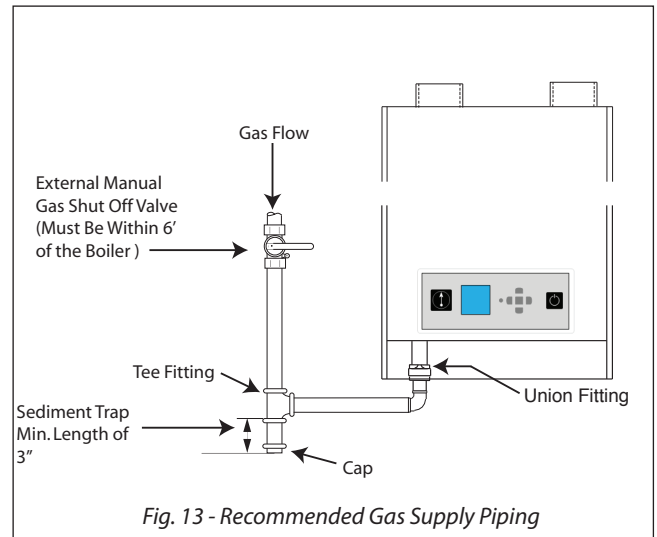

Fig. 13 - Recommended Gas Supply Piping
2. Install a manual shutoff valve in the gas supply piping as shown in *Fig. 13 on the right*. For installations in Canada, the installer must tag and identify the main shutoff valve.
3. Install a sediment trap (drip leg) on the gas supply line prior to connecting to the PRESTIGE Excellence gas train as shown in *Fig. 13 on the right*.